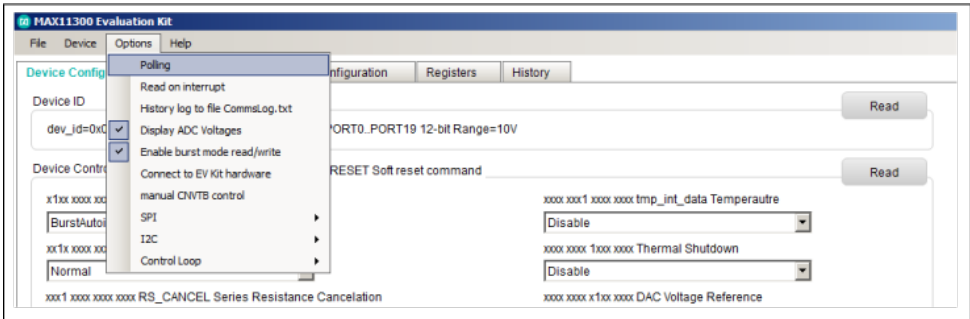

Figure 11. Polling selection.
13. Select "Options" and "Polling" from the drop-down menu to start testing. See Figure 11.